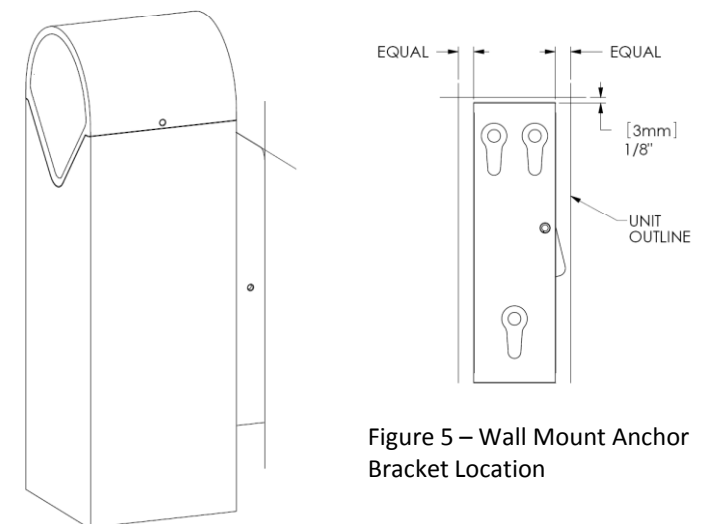

Figure 5 – Wall Mount Anchor Bracket Location
3. Move the unit and locate the wall mount bracket as shown in Figure 5. Mark the hole locations